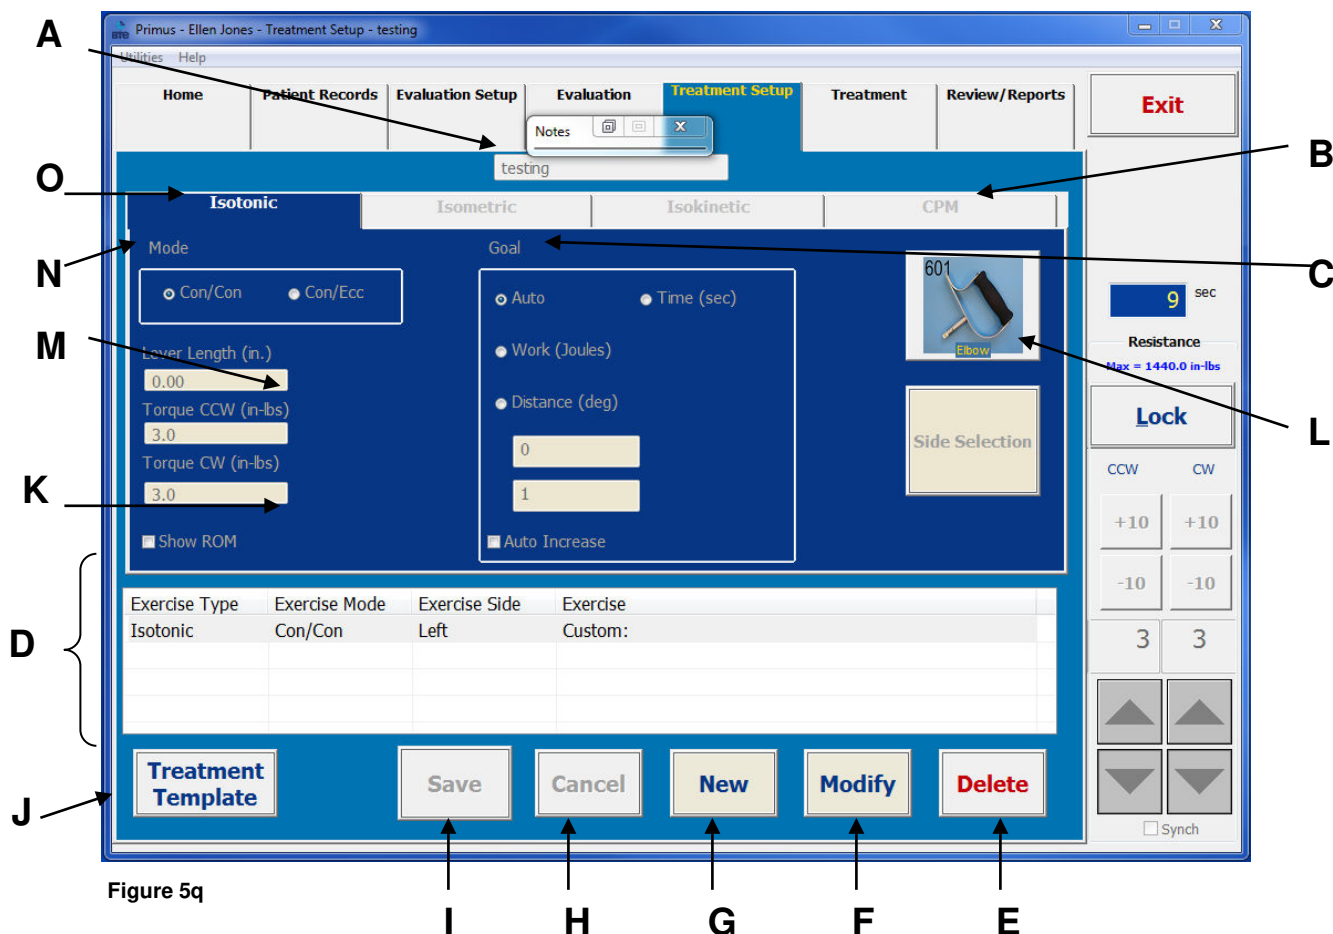

Figure 5q
The PrimusRS *Treatment Setup* screen (Figure 5q) is used to create and edit parameters for each exercise in a template. Now that you have created a Treatment Template, use information entered into the **Task Analysis** and **Master Chart** (Section 10 – Appendix) to begin defining exercises. Primus enables you to establish specific exercise goals for each patient within *Treatment Setup*.
- Step 1. Click “New” at the bottom of the screen (Figure 5q - G). This will bring up a dialog box.
- Step 3. *Treatment Setup* defaults to the Isotonic mode setup screen. An Isometric, Isokinetic, or CPM treatment can be set up by clicking the appropriately labeled tab now. (Figure 5q – O, B).
- Step 4. Click the “Select Tool” button (Figure 5q - L).
Note that for most attachments, the tool’s lever length now automatically appears in the “Lever Length” field (Figure 5q - M).
- Step 7. Check the necessary boxes, click the appropriate radio buttons, and fill in the exercise parameter fields shown in (Figure 5q – C, K, N, P).
- Step 8. Once the parameters are set, click “Save” at the bottom of the screen (Figure 5q - I).
- Step 1. Click the exercise you wish to edit in the Exercise Descriptions List (Figure 5q - D).
- Step 2. Click the “Modify” button to activate the exercise settings (Figure 5q - F).
- Step 4. Click “Save” to store your changes (Figure 5q - I).
- Step 2. Select the exercise from the Exercise Descriptions List (Figure 5q - D) by touching or clicking it.
- Step 3. Hit the large “Delete” button at the bottom right of the screen (Figure 5q - E).
- c. Click the “Treatment Templates” button at the bottom left of the screen (Figure 5q - J).
- g. Now touch the “Delete” button at the bottom right of the screen (Figure 5q - E).
Step 3. If you loaded a pre-set template, you will see a series of exercises in the horizontal Exercise Descriptions box toward the bottom of your screen (Figure 5q - D). To edit one of these, click on it (it will become highlighted) and touch the "Modify" button at the bottom of your screen. Proceed directly to Step 5.
Set these parameters (diagrammed in Figure 5q – Treatment Setup):